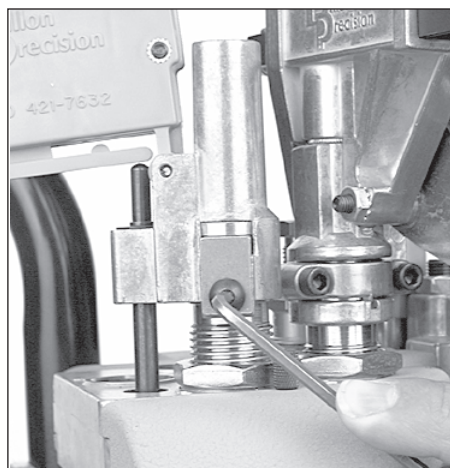

FIG 109
5. Reinstall and snug the die clamp screw **FIG 109**.